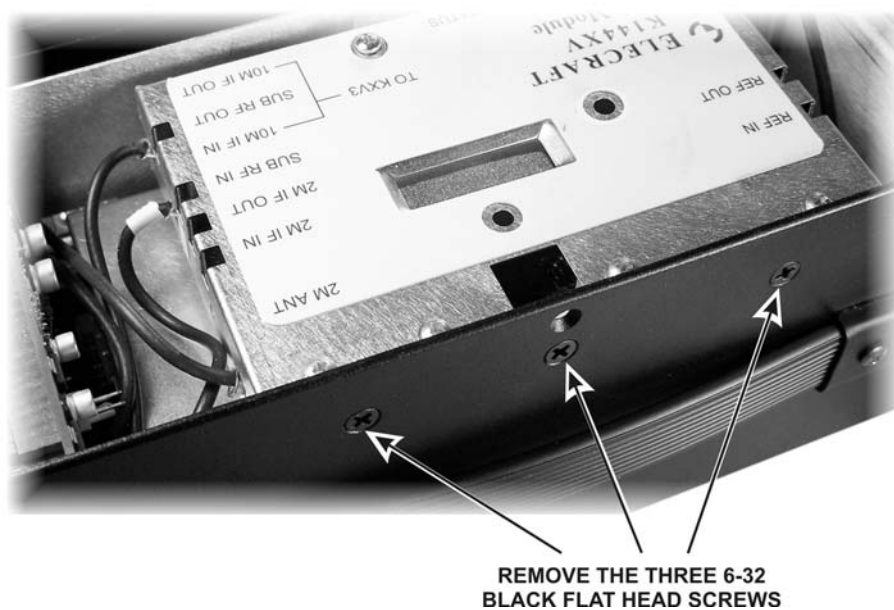

Figure 6. Freeing the K144XV Module (Optional).
- 1) **If you are having difficulty inserting the TMP cables into the REF IN and REF OUT connectors, you can remove the three 6-32 black flat head screws that hold the K144XV module in place (see Figure 6). That will free the module so you can lift the end to better access the TMP connectors. Take care that you do not pull the other TMP connectors loose while doing this.**